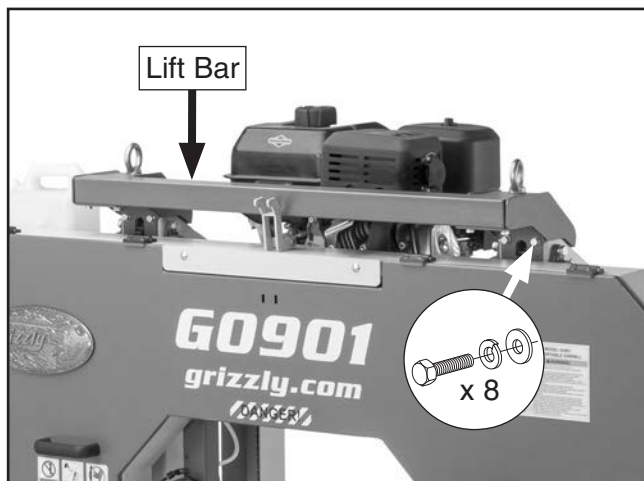

Figure 10. Lift bar installed on carriage (front).
3. Remove (6) M10-1.5 x 20 hex bolts, (6) 10mm lock washers, (6) 10mm flat washers, (8) M8-1.25 x 16 hex bolts, (8) 8mm flat washers, and (8) lock washers from carriage, then attach lift bar to carriage with removed hardware (see **Figures 10–11**).